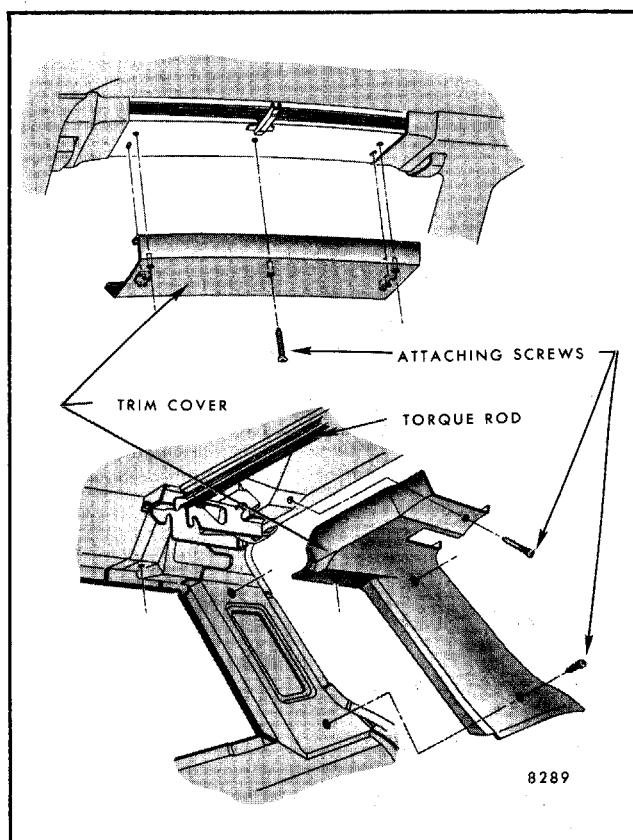
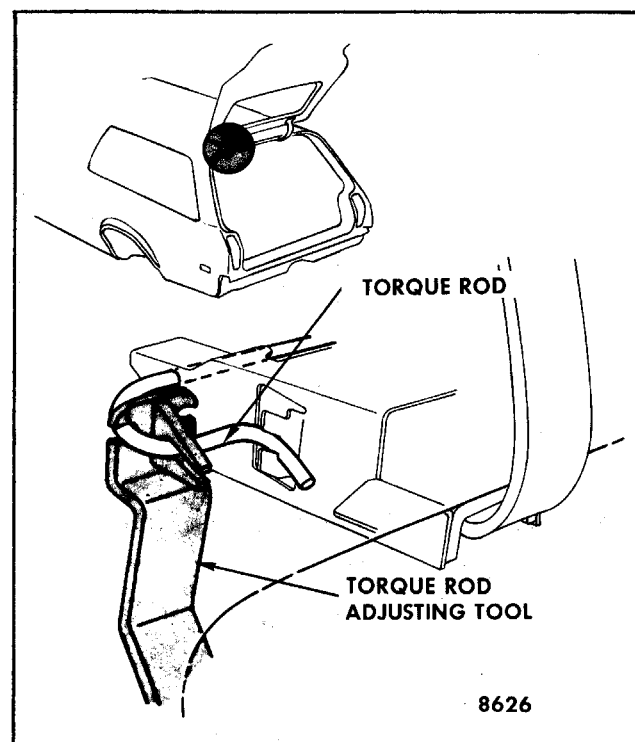

Fig. 7-94-Torque Rod Trim Removal - H-15 Styles
Fig. 7-95-Torque Rod Adjustment - H-15 Styles
Adjustments (Fig. 7-95)
2. To remove torque rods, open back door and remove trim covers as shown in Figure 7-94, disengage end of torque rod from adjusting notches as shown in Figure 7-95. Then allow handle of removal tool to rotate forward to relieve tension on rod.